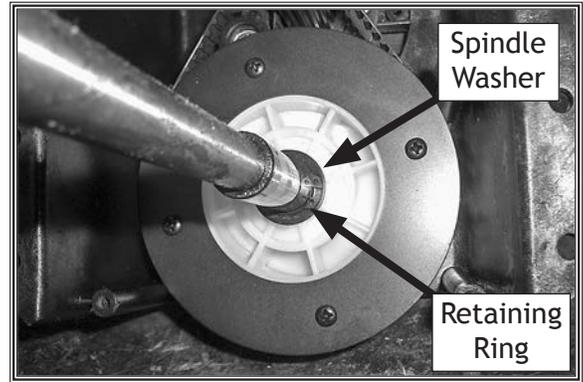

Figure 26. Spindle washer and retaining ring installed.
- 22. Install spindle washer (#51) and retaining ring (#50), as shown in **Figure 26**.